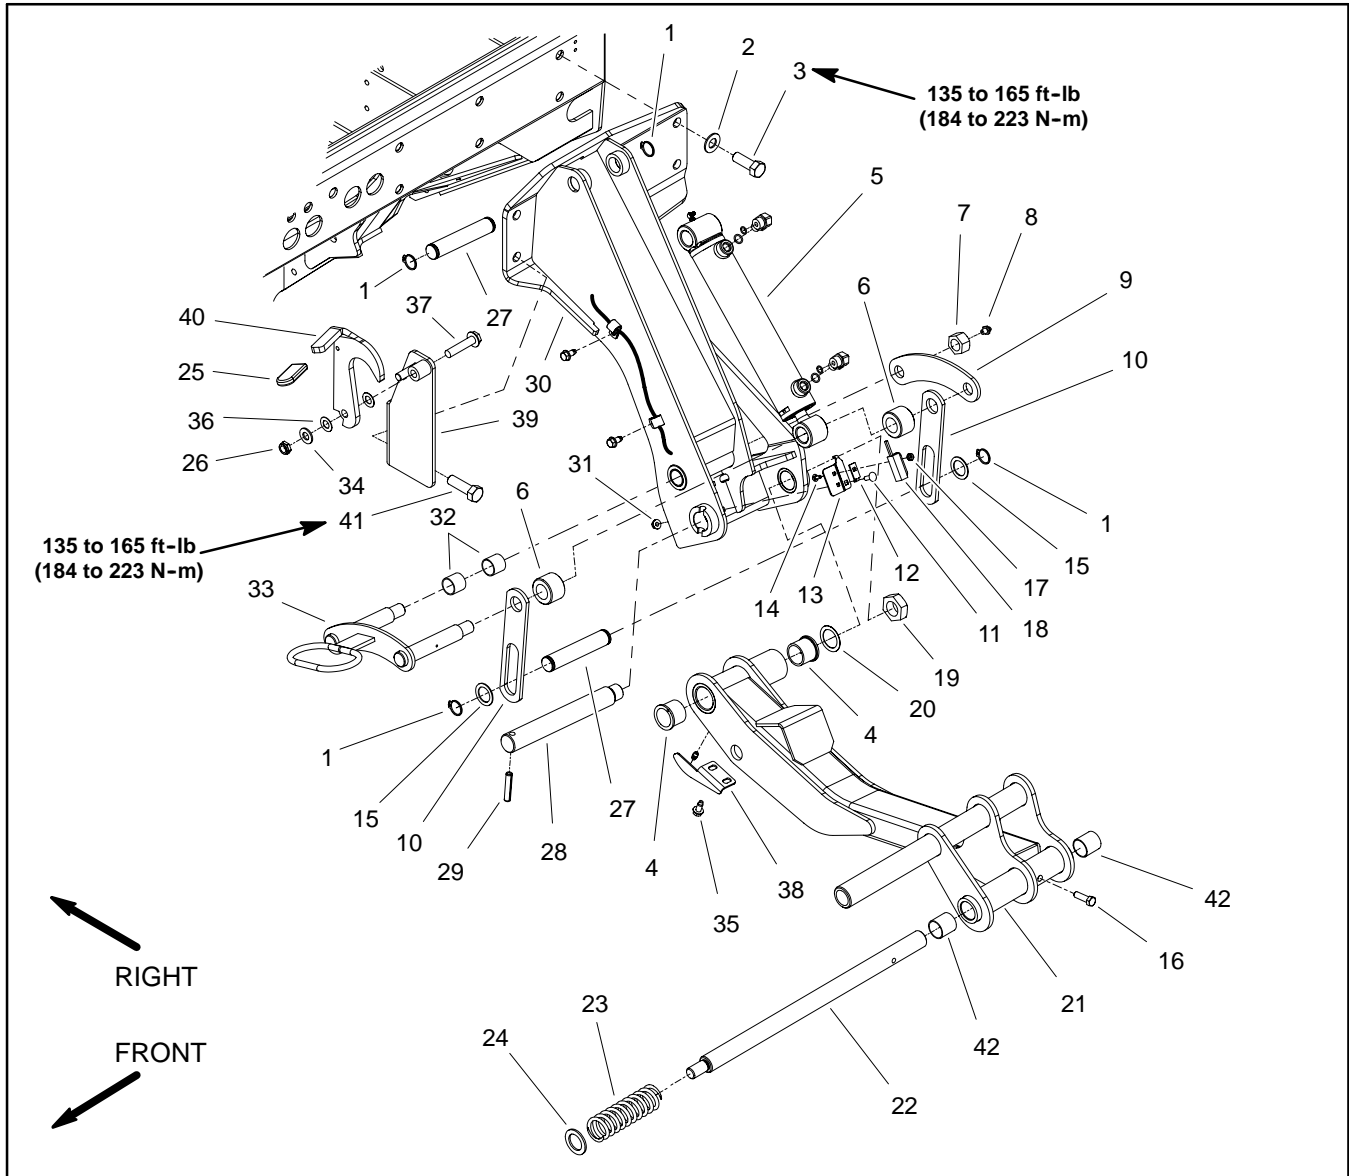

Figure 12
Removal (Fig. 12)
3. Remove pin (item 27) that secures lift links (item 10) to lift arm.
4. Loosen and remove lock nut (item 19) from pivot pin (item 28).
5. Support lift arm and pull lift arm pivot pin from lift arm and support arm. Locate and remove thrust washer (item 20) from rear of lift arm during pivot pin removal.
7. Disassemble lift arm as needed using Figure 12 as a guide.
Installation (Fig. 12)
1. Assemble lift arm using Figure 12 as a guide.
2. Position lift arm to support arm. Fit thrust washer (item 20) between rear of lift arm and support arm. Slide pivot pin into support arm and lift arm. Align roll pin in pivot pin with slot in support arm flange.
3. Install and tighten lock nut (item 19) to secure lift arm pivot pin.
4. Secure lift links (item 10) to lift arm with pin (item 27). Make sure that thrust washer (item 15) and retaining ring (item 1) are on both ends of pin.